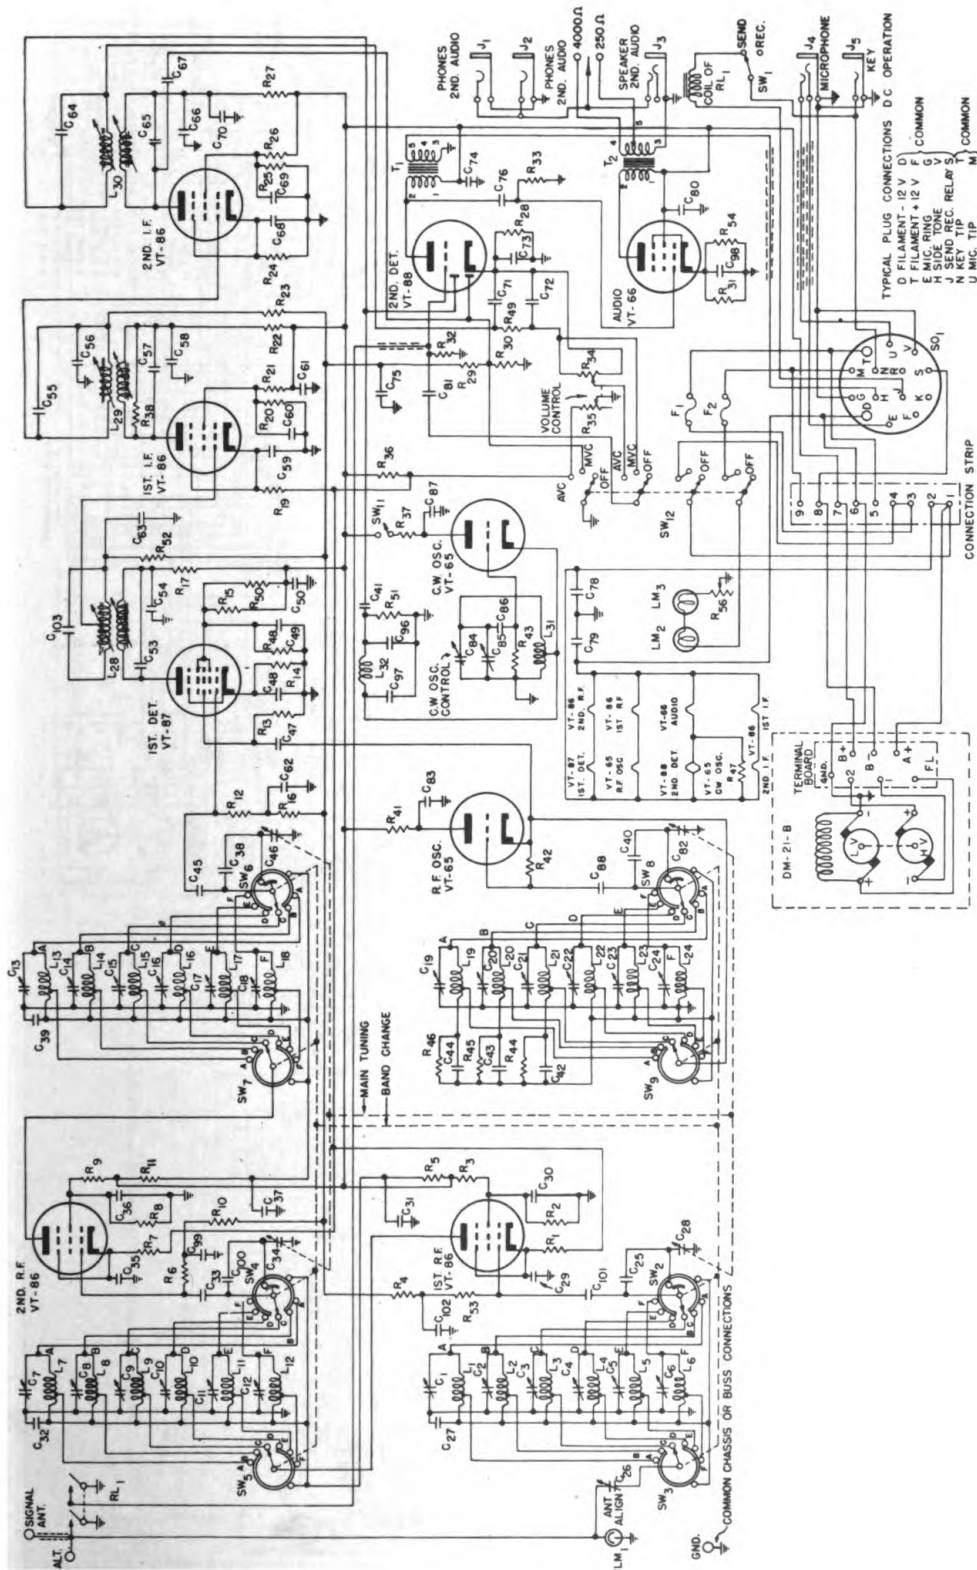

Figure 12.—Schematic diagram, Receiver BC-312-(\*).
**24. Dial Lamp Circuit (figs. 12, 13, 14, 15 and 16).—**